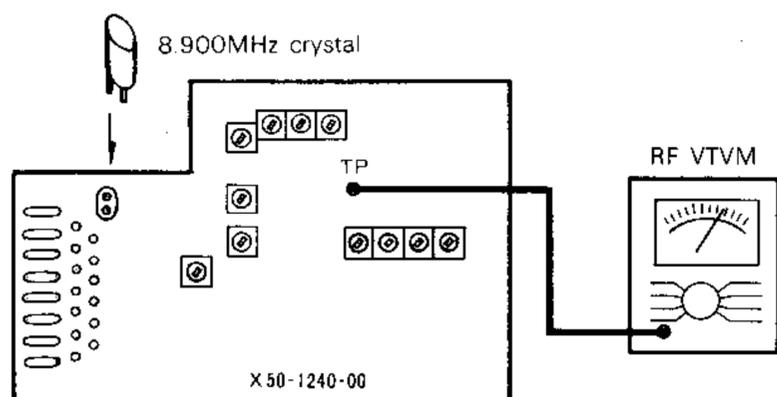

FIG. 6 HET ADJUSTMENT
- (1) Insert the adjusting crystal (8.900MHz) into the crystal socket on the synthesizer unit (Fig. 6).
- (2) Connect RF VTVM (1V range) to the TP terminal (Fig. 6).
- (3) Under the transmit mode, obtain a maximum reading on RF VTVM by adjusting L12 → L13 → L15 → L16 → L17 → L18 → L19 (f: 144.295MHz). This adjustment should be made several times.
- (1) Remove all the measuring instruments, except for the power cord (receiving). Set the channel to "A" and insert the adjusting crystal (8.9MHz for 144.70MHz) into the crystal socket (Fig. 6).